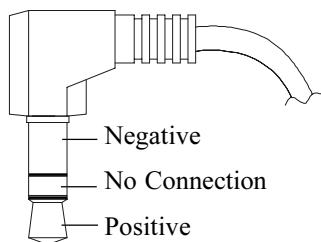

Figure 1
4. The PS112's Power Control will function with 5 to 20 volts applied to the Power Control Input. Use a 1/8 inch stereo mini phone plug to connect to the Power Control Input. Refer to figure 1.